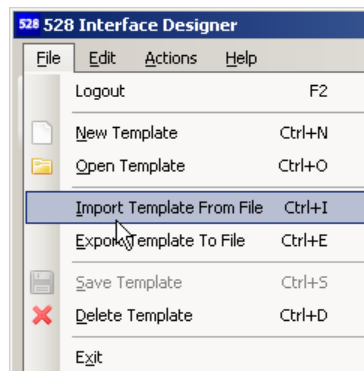

Figure 6-8: Import Template Menu
1. Click on the **File** menu and select **Import Template From File** as shown in Figure 6-8.